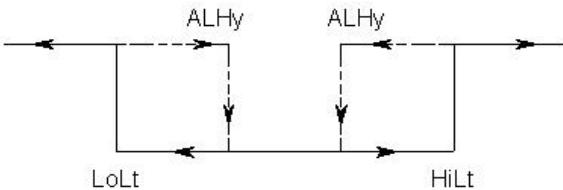

Fig. 4
- * The function of " Low limit value " setting, refer to page 13, Fig. 4.
- * The function of " High limit value " setting, refer to page 13, Fig. 4.
- * The function of " Alarm Hysteresis value " setting, refer to page 13, Fig. 4.